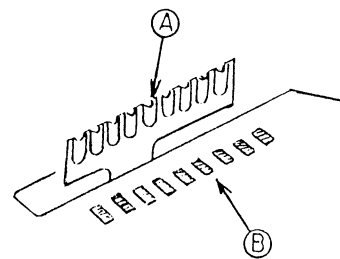

Fig.93
- 2) After the bending of the FPC, solder the parts ① and ②. (See Fig.93)